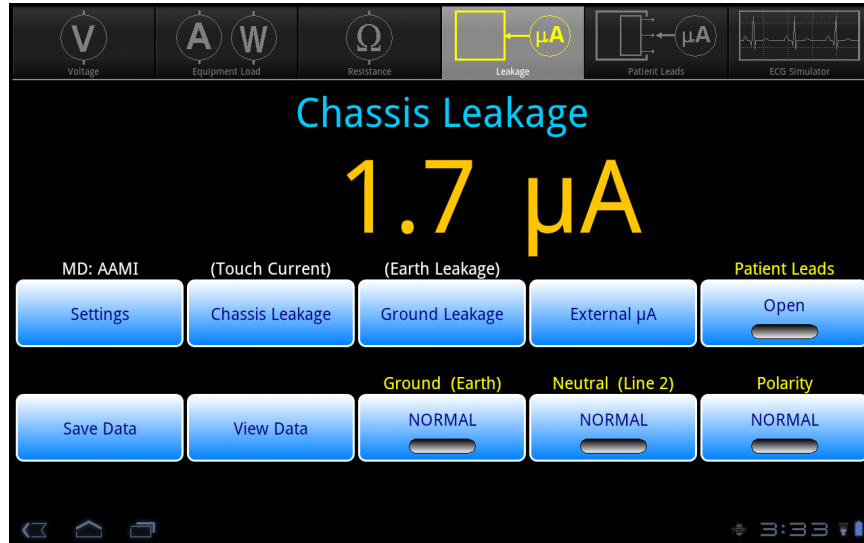
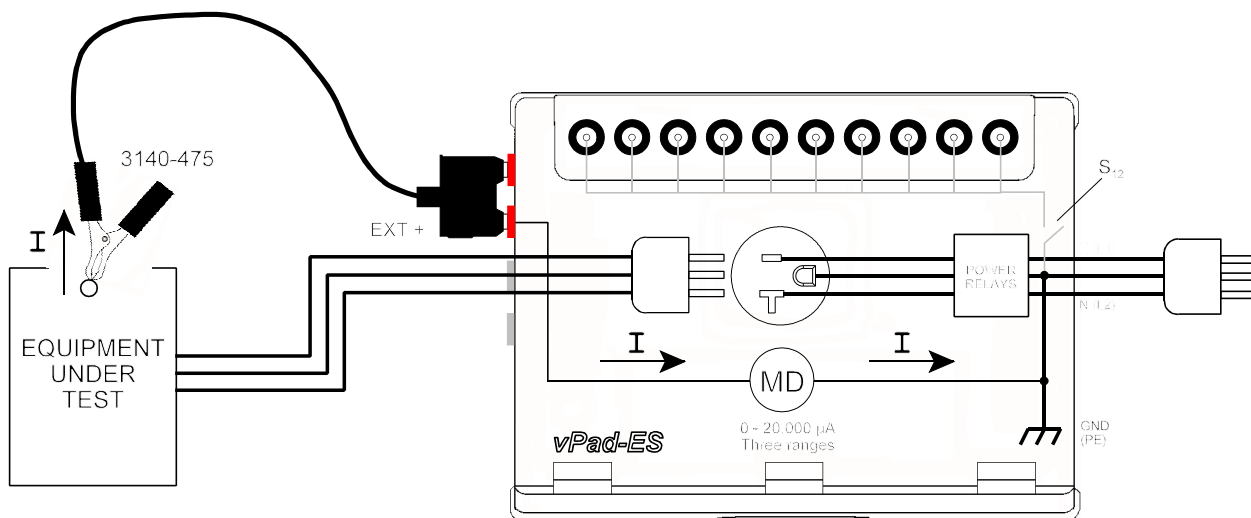

Figure 35 - Leakage test mode.
Figure 37 - Chassis leakage test.
Connect the EUT to the test receptacle, and use the vPad Kelvin Cable to connect a conductive point on the EUT chassis to the **EXT+** jack on the left side of the Base Unit, as shown in **Figure 37**. Leakage current is measured over three ranges (200, 2000 or 20000 μA full scale), with the range being automatically selected by vPad-ES as required.
Referring to the display screen shown in **Figure 35**, the **Patient Leads** button may be used to connect EUT patient leads or "applied parts" to the AC supply ground. This is represented in the schematic of **Figure 37** by switch S_{12} and is a test condition which is required by the IEC60601 standard. Pressing the **Settings** button of **Figure 35** allows you to choose AAMI or IEC measuring device (MD), and optionally choose AC-only or DC-only measurement; refer to Section 4.10 for more details on Leakage Settings.
Ground and **Neutral** controls of **Figure 35** are mutually exclusive and setting one of these to "Open" will cause the other to be automatically set to "Normal" if it is not already so. This prevents you from inadvertently selecting a double-fault test condition, which is not permitted in the safety standards.